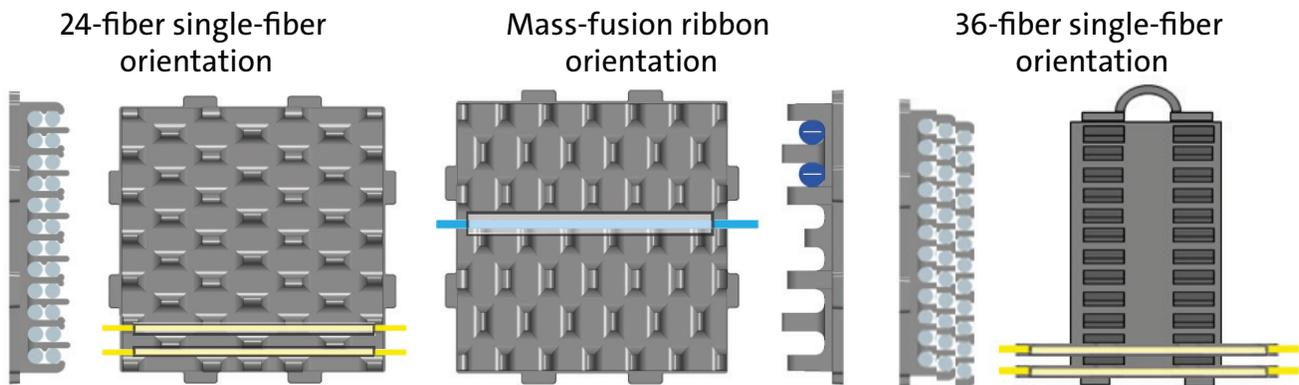

Figure 53
**NOTE:** When placing spliced fibers in the splice organizer, it may be necessary to lift the organizer and rotate it 90 degrees from its factory-installed orientation (Figure 53).